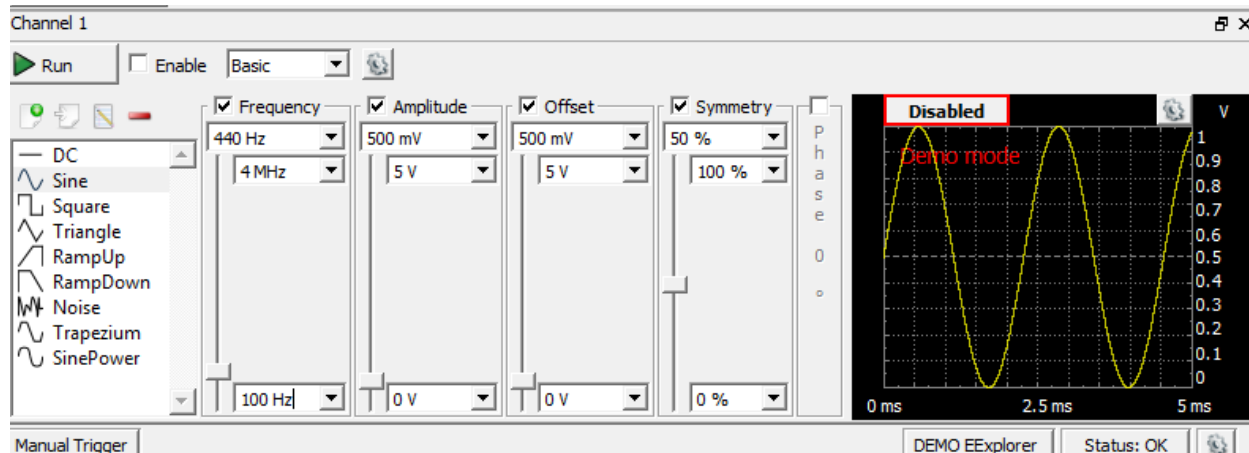

Figure 3: WaveGen Function
3. Click on Sine (as shown in Figure 3).